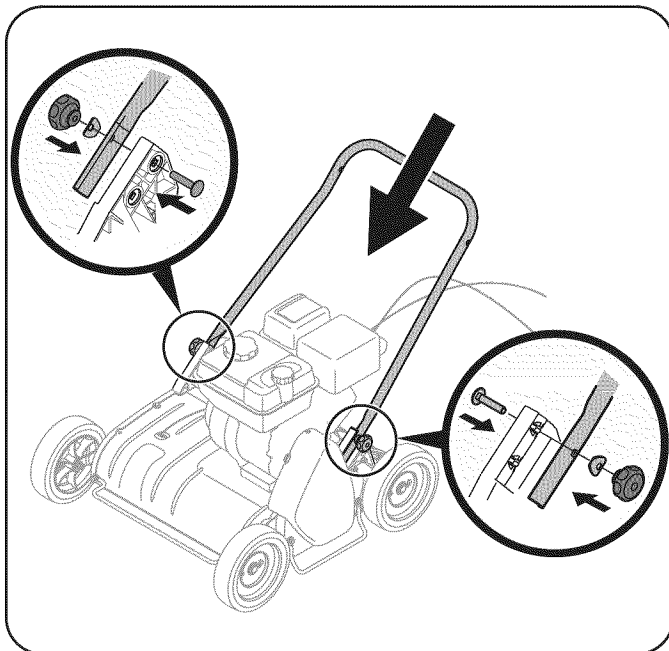

Figure 1
2. Place lower handle as shown. See Figure 1.